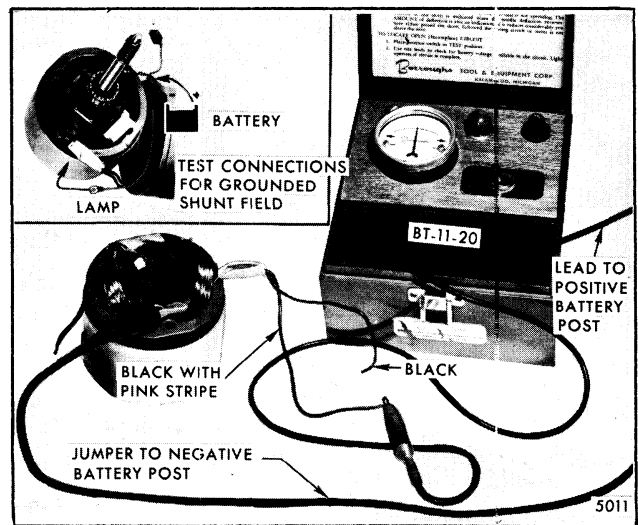

Fig. 2-39-Testing Field Coils
2. Disassemble motor section of wiper and check for grounded shunt field coil (Fig. 2-39).